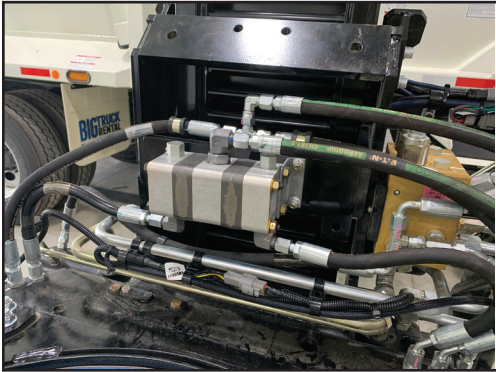

Figure 4
11. Reinstall the hoses and fittings (Figure 4). Use a torque wrench to torque to proper specifications (see Service Manual for torque specifications).